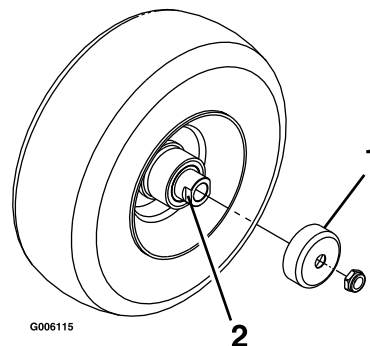

**Figure 43**
9. Remove the grease zerk in the hole. Install the hex plug and dust cap (Figure 43).